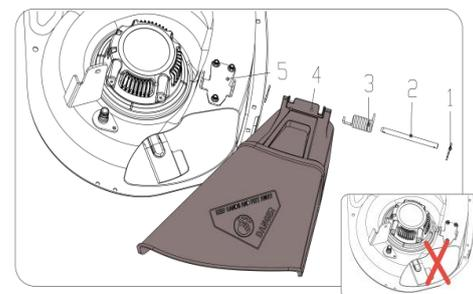

Figure 2.4
- Insert the elastic pin (1) into the right end of the pin (2);
- Insert the pin(2) shaft into the side deflector (4), bracket (5) and torsion spring (3) in sequence, and elastic latch (1) at the other end. See Figure 2.4